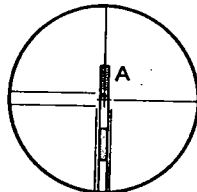

Fig. 26
- Sight the target A using the lower clamp ① and fine motion ④ , Fig. 26.